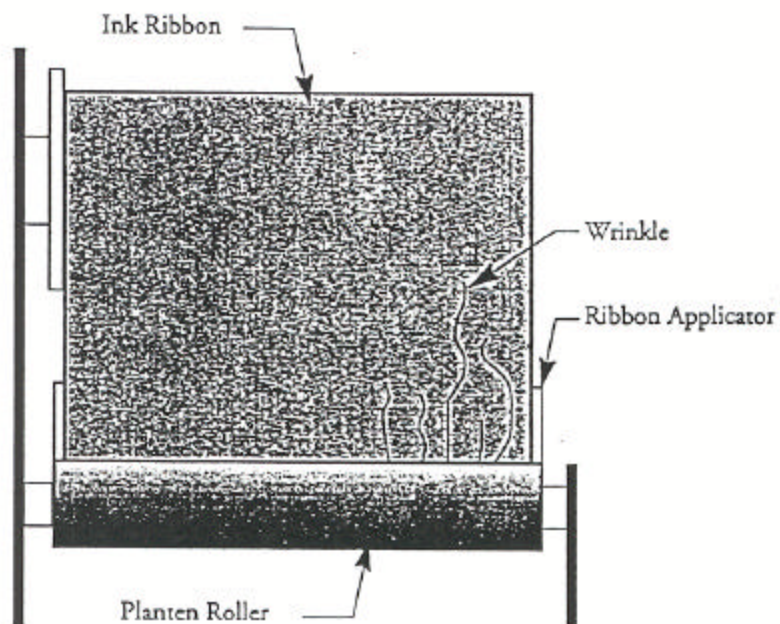

Figure 13. Wrinkle On Ribbon
2. Check the ribbon for wrinkles. If wrinkles are present, stop the media (labels) by [PAUSE]. See Figure 13 as an example of wrinkles produced on the bottom right side of the ribbon.